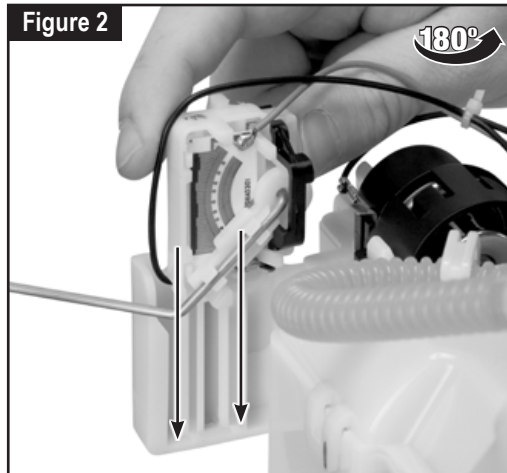

Figure 2
4. The rheostat and float arm assembly must slide into the groove. The yellow wire must be on the upper position when installing the rheostat (figure 2)